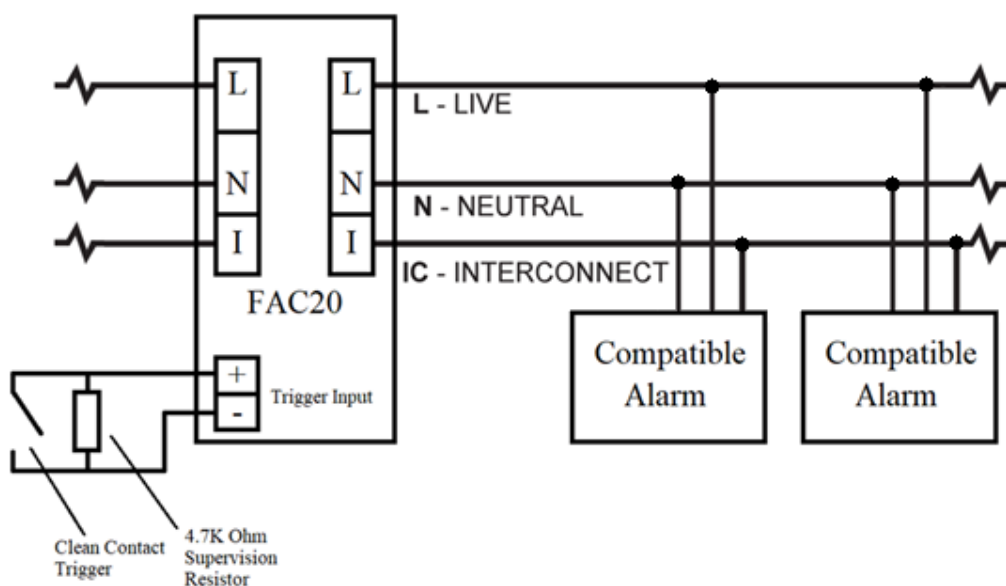

Figure 4 FAC20 connection diagram
2. Select the nearest Alarm to FAC20 and run active (L), neutral (N) and interconnect (I) to where FAC20 is mounted.
3. Remove the first plug in FAC20 and terminate the incoming three wires L, N & I into the plug as shown in Figure 4, page 7.